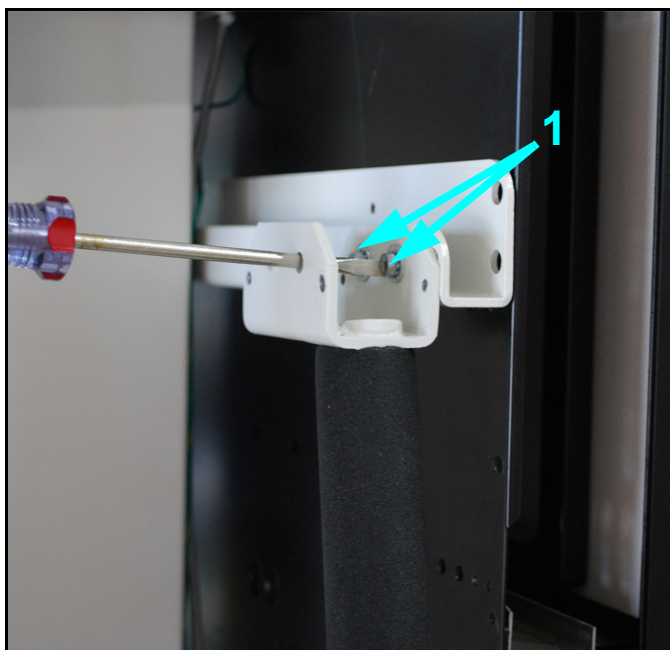

Figure 5-6. Brake Handle
- 5 Unscrew the brake handle (1 in Figure 5-6), remove the handle to the back of the bottom bucky bracket and put it aside.